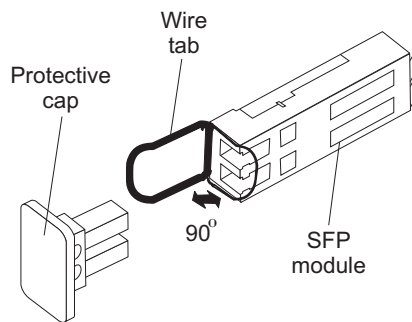

Figure 15. SFP module and protective cap
2. Remove the protective cap from the SFP module, as shown in Figure 15. Save the protective cap for future use.
2. If necessary, remove the protective cap from the SFP module, as shown in Figure 15 on page 32. Save the protective cap for future use.